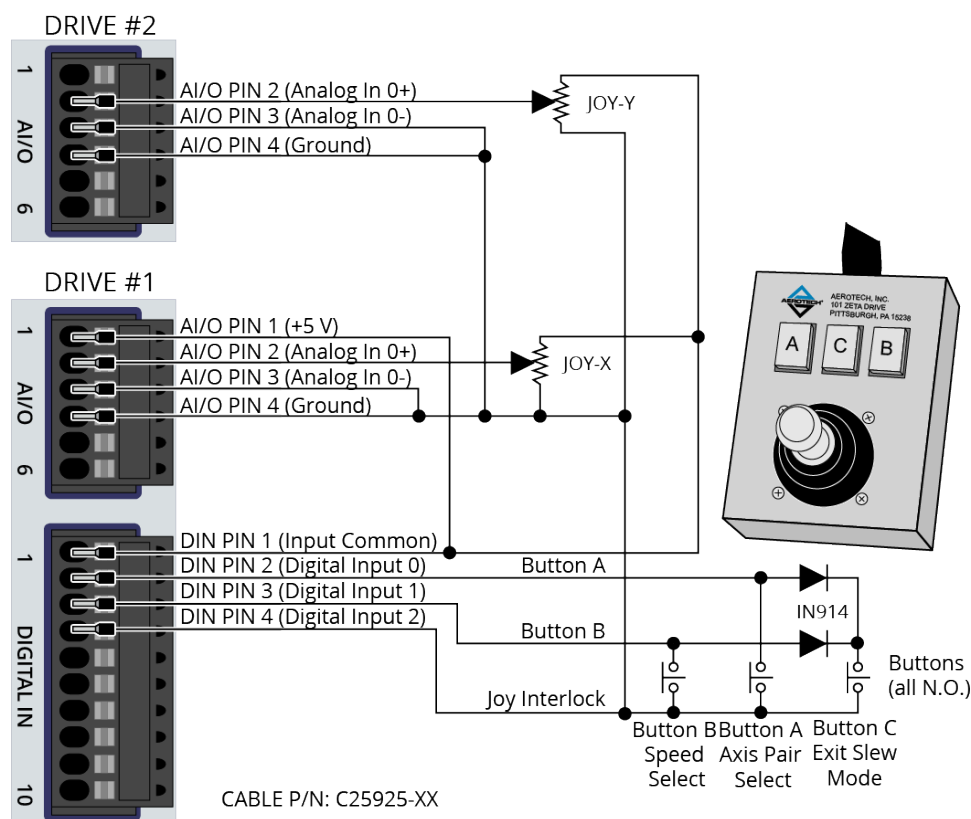

Figure 4-2: Two Axis Joystick Interface
1.01.00	Added System Interconnection drawing: Section 2.6 . Updated Joystick Interface drawing: Figure 4-2